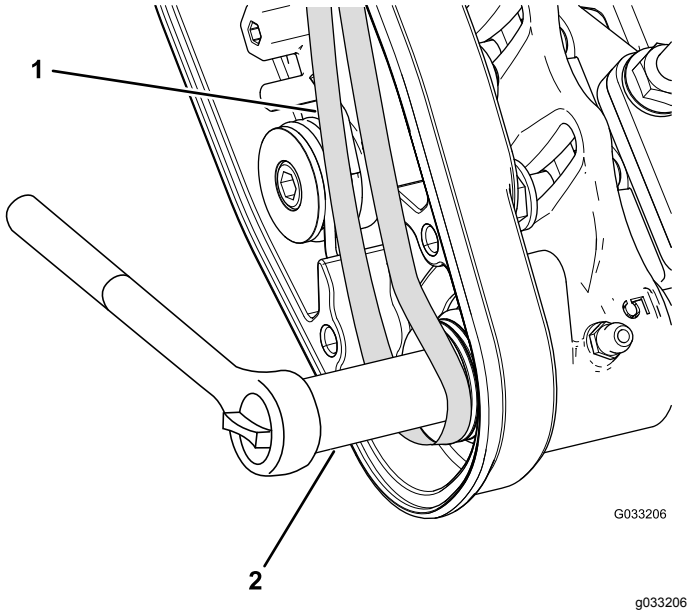

Figure 14
- Start the belt on the **driven** pulley (Figure 14).
- Use a deep-well socket (9/16-inch) to rotate the brush assembly and guide the belt onto the driven pulley (Figure 14).